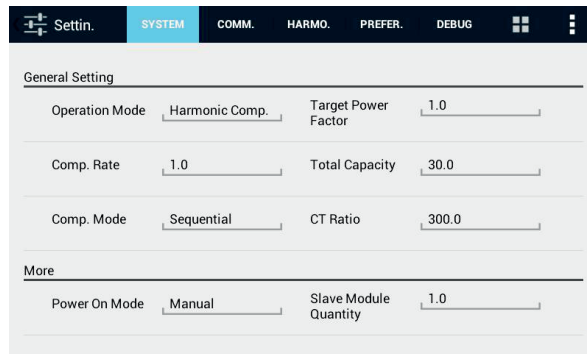
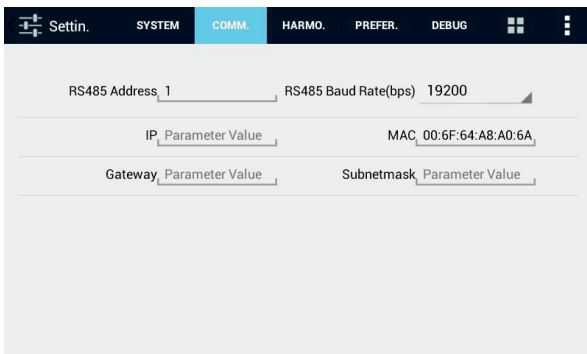

Figure 6-8 Interface of system setup
Figure 6-9 Interface of communication setup
- ◆ Click “**SYSTEM**” button in the title bar to enter the login interface of setting, and input password to enter the interface of system setup. “**SYSTEM**” is displayed in Figure 6-8, Operation Mode, Power On Mode, CT location, Slave Module Quantity and Total Capacity can be set up;
- ◆ Click “COMM.” button in the top of Figure 6-8 to enter the interface of communication setup, as shown in Figure 6-9.